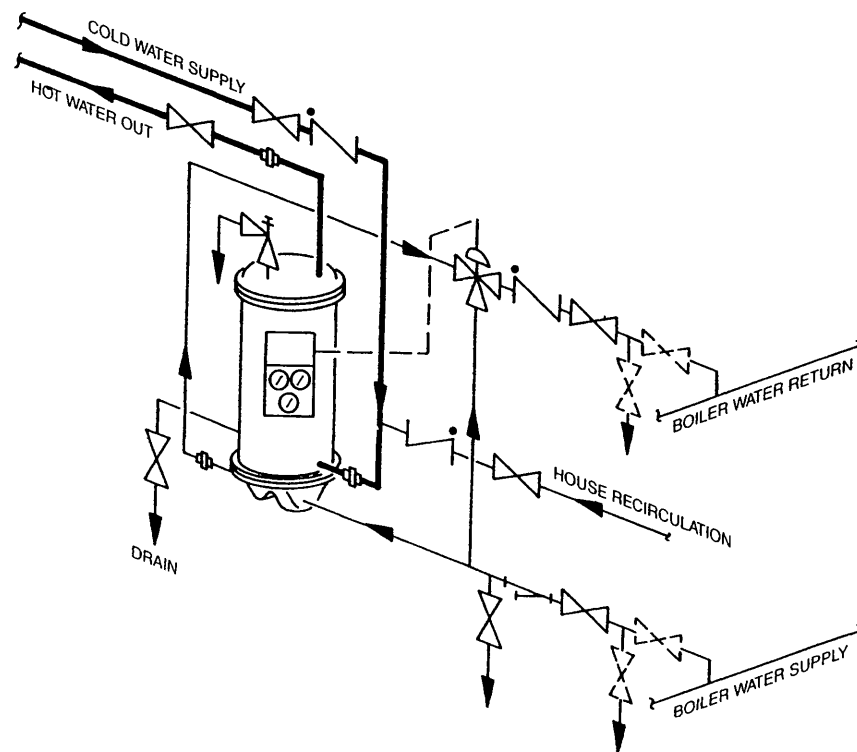

Figure HE-106-8 -- Piping Connections for a Single Water to Water Heater with a 3-Way Control Valve
- Single Heater with a 3-Way Control Valve - Figure HE-106-8
- The line shown in Figure HE-106-8 from the Heating Fluid supply line to the B port of the 3 Way Control Valve is required to assure constant and adequate circulation of the Heating Fluid where such is necessary